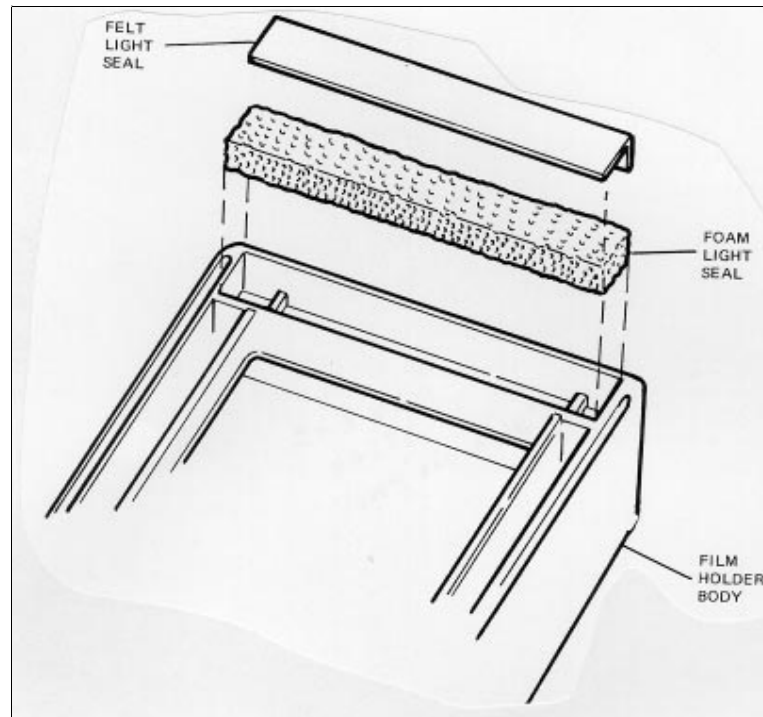

Figure 5-23. Installing the Light Seal and Foam Seal
- 2) Position the felt light seal on top of the foam seal, and tuck the flap in between the foam seal and the film holder body (figure 5-23).